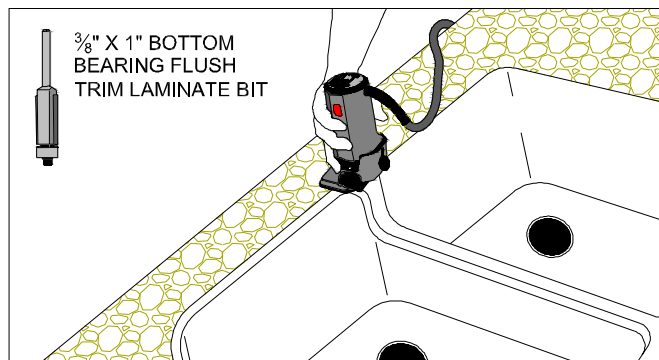

Figure 17C
- Adjust the laminate tilt-base trim router with a  $\frac{3}{8}$ " bottom bearing flush trim bit. (FIG. 17C)